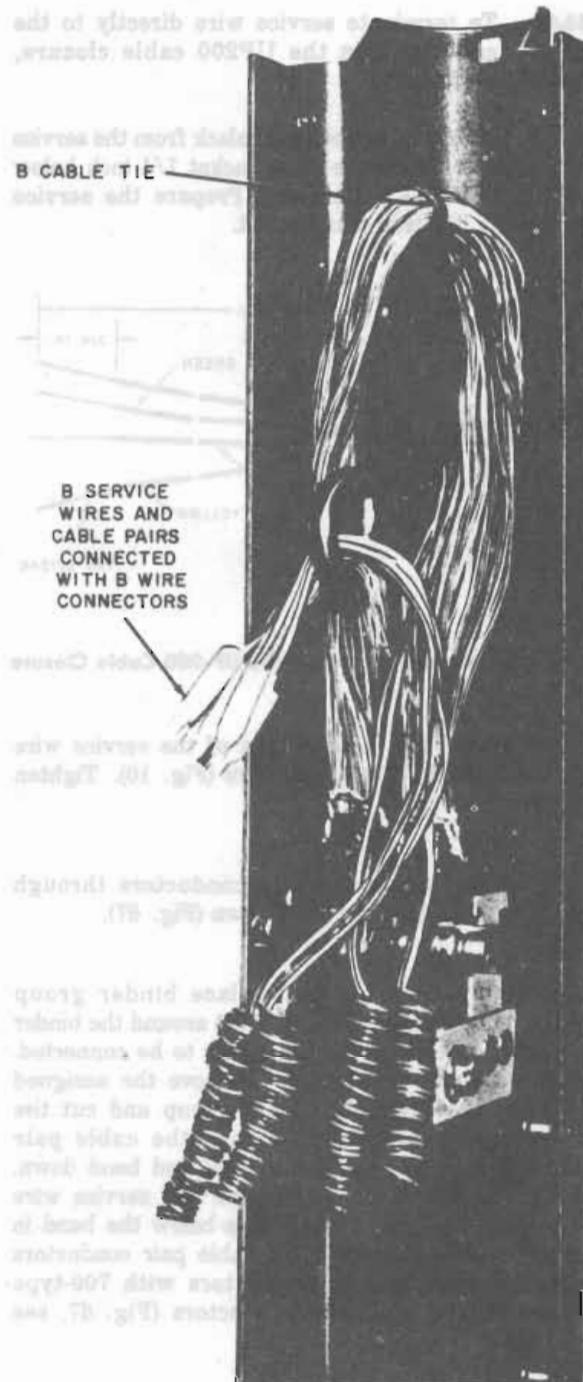

Fig. 65—Service Wire Installed—D Cable Closure
- (3) Run the service wire conductors through the eyebolt and bend down (Fig. 65).
- (4) At each cable butt, place binder group identification ties (see 7.01) around the binder group containing the cable pair to be connected. Remove the unit binder. Remove the assigned cable pair from the binder group and cut the cable pair (see 7.02). Place the cable pair conductors through the eye bolt and bend down. Cut the cable pair conductors and service wire conductors even, 1-1/2 inches below the bend in the eyebolt. Connect the cable pair conductors to the service wire conductors with 700-type connectors or B wire connectors (see 7.03).